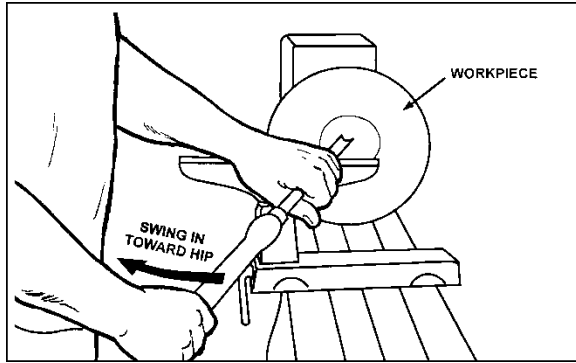

Figure 27
and pointed toward the four o'clock position, as shown in Figure 27.
6. Use the left hand to control cutting edge of gouge, while right hand swings tool handle around toward your body (Figure 27). The flute should start out facing top of workpiece and rotate upward as it moves deeper into the bowl to maintain a clean even curve. As the tool goes deeper into the bowl, progressively work out toward the rim. It may be necessary to turn the tool support into the piece as you get deeper into the bowl.